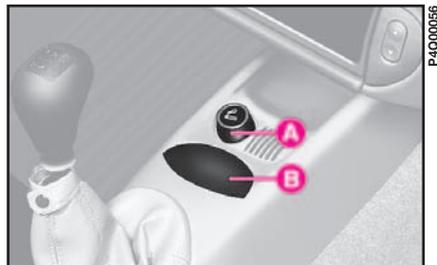

fig. 50
2) To open the ashtray slide flap **B**-fig. 50.